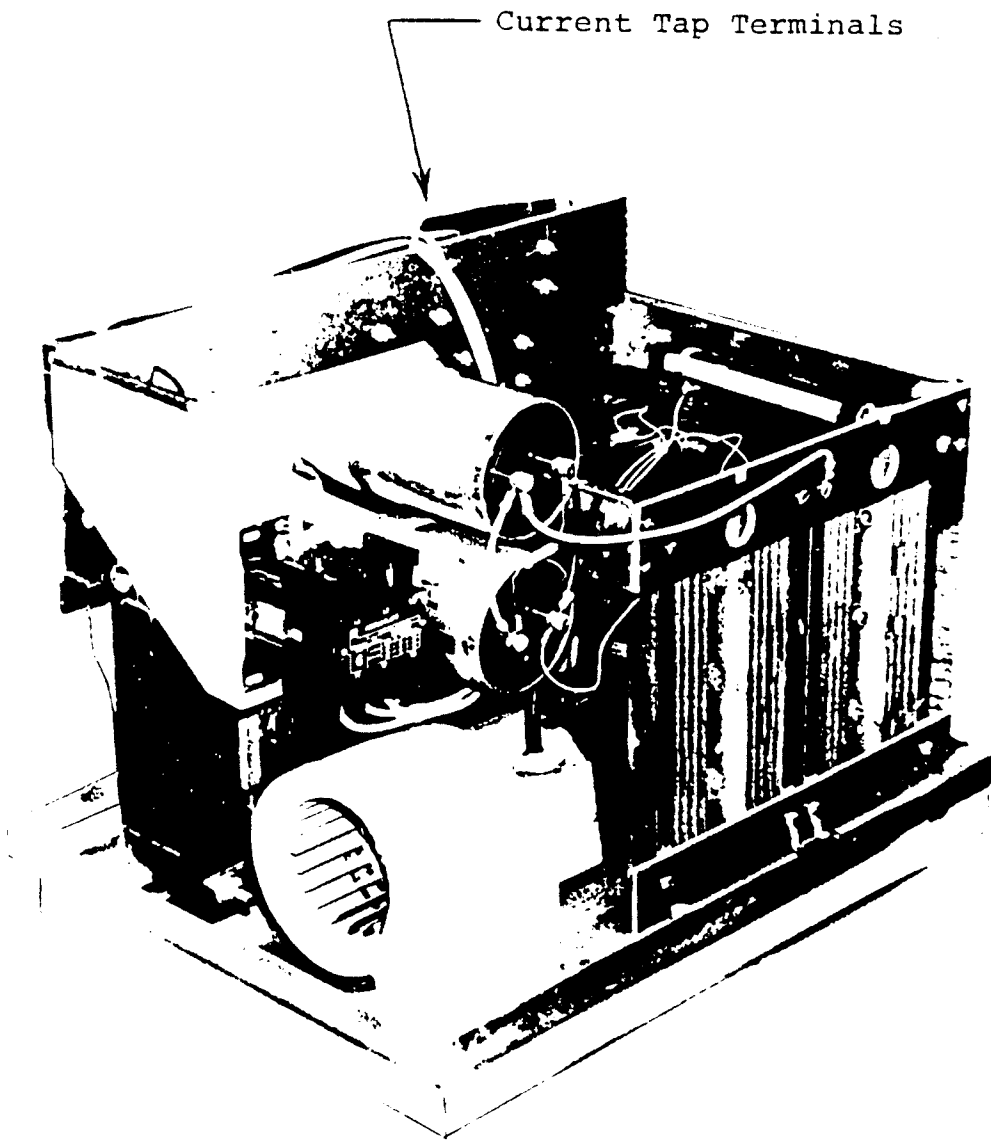

FIGURE 4-9
4.6 DESCRIPTION OF CONTROLS - 4500 WATT POWER SUPPLY (See Figure 4-9)
- b. Remove the lower panel on the operator side of the console and locate the current tap terminals above the main power transformer of the power supply (see Figure 4-9).